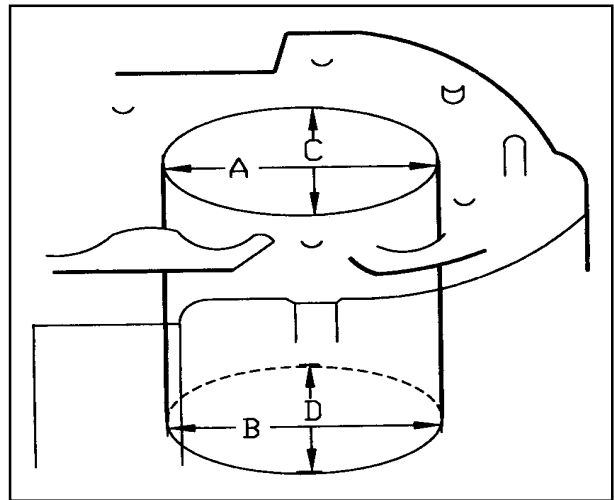

Figure 29
- detected with a cylinder bore gauge using the procedure given in step 3 see Figure 29.